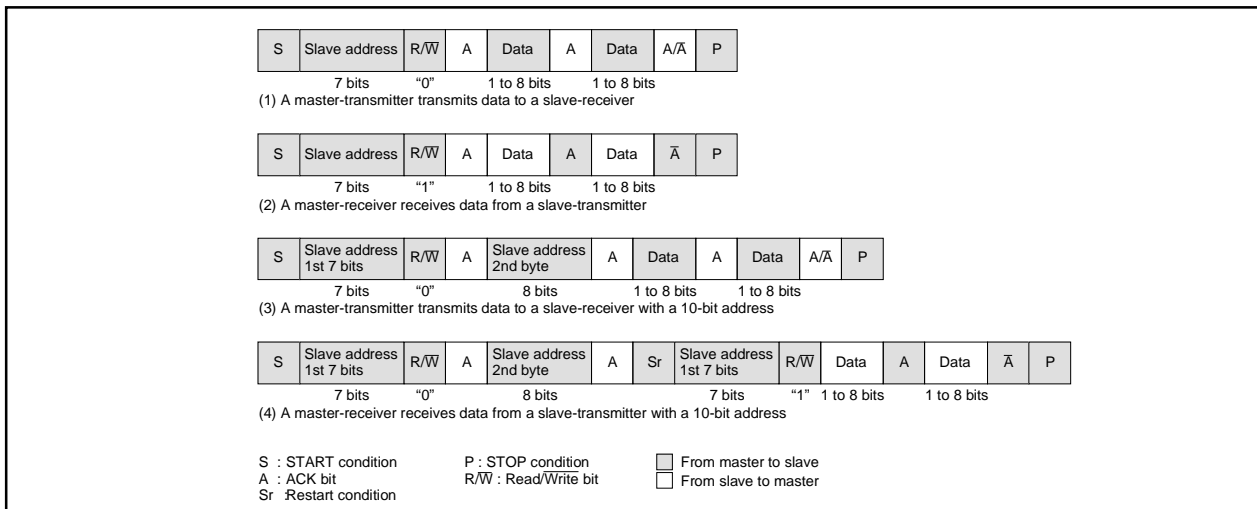

Fig. 2.11.41 Address data communication format
To meet the 7-bit addressing format, set the 10BIT SAD bit of the I²Ci control register to "0." The first 7-bit address data transmitted from the master is compared with the high-order 7-bit slave address stored in the I²Ci address register. At the time of this comparison, address comparison of the RBW bit of the I²Ci address register is not made. For the data transmission format when the 7-bit addressing format is selected, refer to Figure 2.11.41, (1) and (2).
When the first-byte address data matches the slave address, the AAS bit of the I²Ci status register is set to "1." After the second-byte address data is stored into the I²Ci data shift register, make an address comparison between the second-byte data and the slave address by software. When the address data of the 2nd bytes matches the slave address, set the RBW bit of the I²Ci address register to "1" by software. This processing can match the 7-bit slave address and R/ \bar{W} data, which are received after a RESTART condition is detected, with the value of the I²Ci address register. For the data transmission format when the 10-bit addressing format is selected, refer to Figure 2.11.41, (3) and (4).
(11) Example of Master Transmission